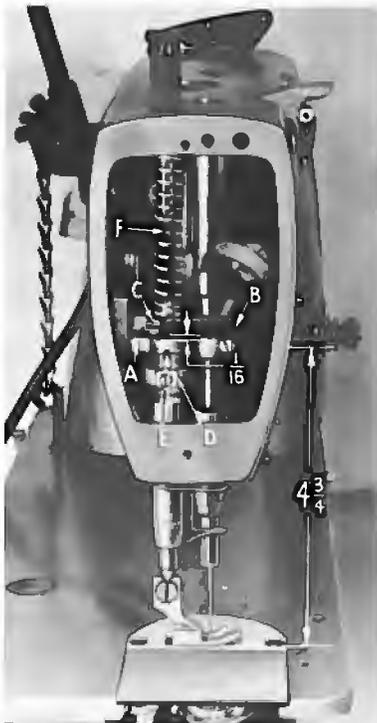

Fig. 16
The presser bar connection (A, Fig. 16) should be set so that it is about  $\frac{1}{16}$  inch below the presser bar guide (B). This is accomplished by tipping the machine back against the rest pin, loosening the lock nut (A, Fig. 15), and relocating the stop screw (B) on the lifter lever bell crank (C). By turning the stop screw to the right or left, the proper setting of the presser bar connection is accomplished. Tighten the lock nut (A) to lock the stop screw in place.
When locating the presser bar guide (B, Fig. 16), the presser foot must rest directly against the throat plate with the feed dog in its lowest position. The guide is set properly when there is a 4 3/4 inch space between the thread take-up wire and the top of the throat plate (Fig. 16)